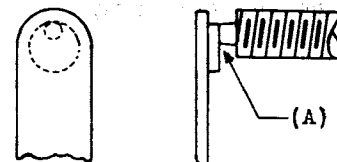

Fig. 2
- 2.07 Contact Alignment - Fig. 2 (A) - Contacts shall line up so that the point of contact falls wholly within the circumference of the opposing contact disc. Gauge by eye.